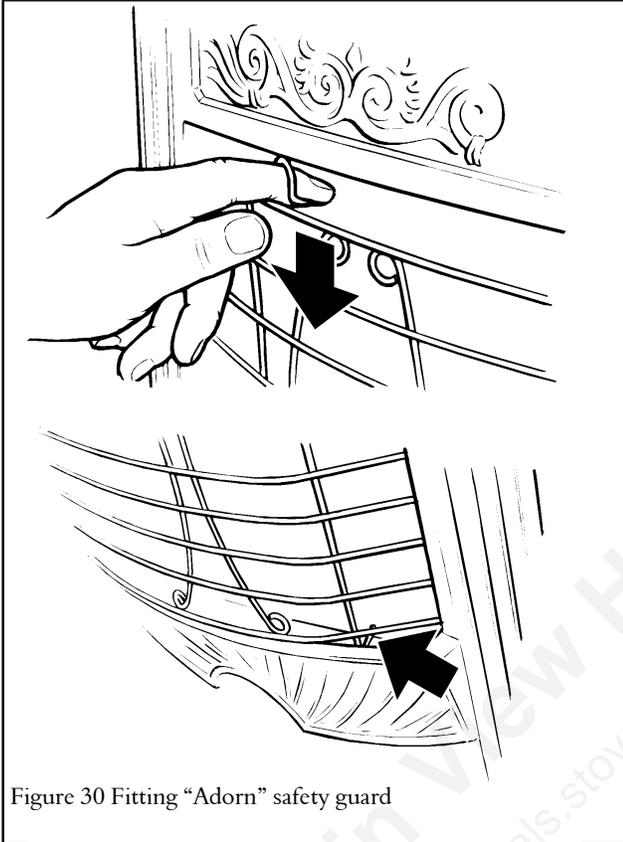

Figure 30 Fitting “Adorn” safety guard
- 15.1 “Adorn” front; Locate the guard bottom wires over the brass ashlip. Hold the top springs down. Swing the guard back. Release the springs so that they locate behind the canopy (See figure 30).